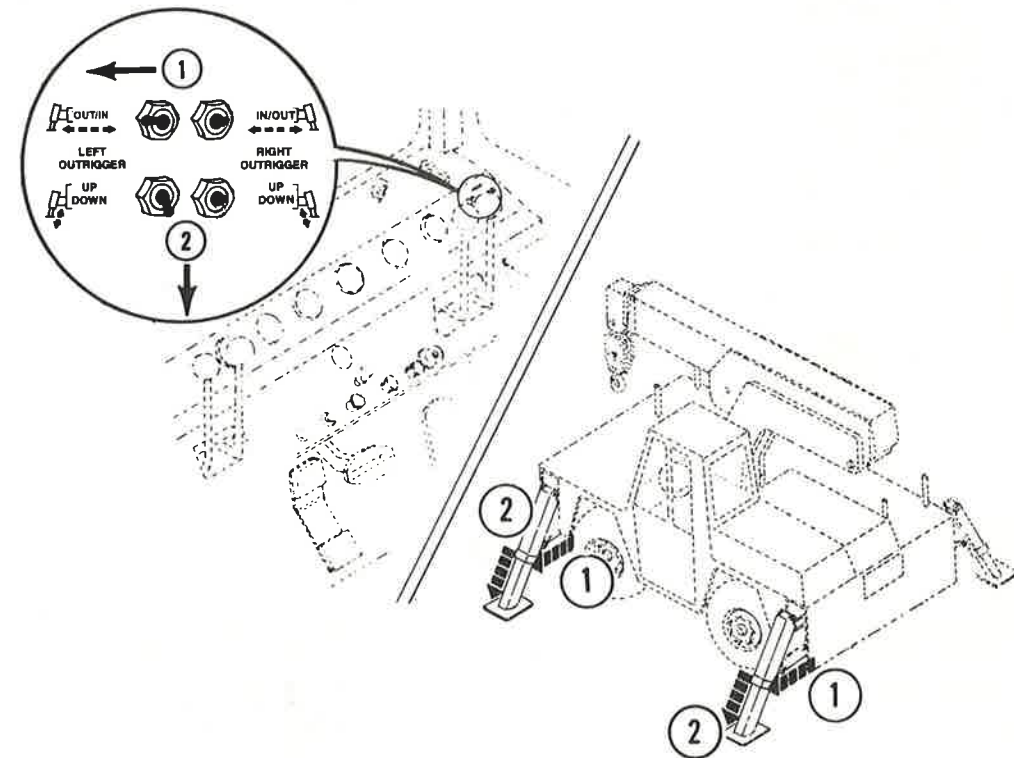

Figure 12. To Extend and Lower the Outriggers
1. To Extend: Run the engine at low rpm (accelerator pedal released). Push and hold the desired switch out as required (Figure 12, Item 1). Push the accelerator pedal to increase engine rpm and accelerate the outward movement of the outriggers. Release the accelerator pedal and the switch when the outriggers are fully extended.
2. To Lower: Hold the desired switch in the down position as required (Figure 12, Item 2). Push the accelerator pedal to increase engine rpm and accelerate the downward movement of the outriggers. Release the accelerator pedal and the switch when the outriggers are fully lowered.